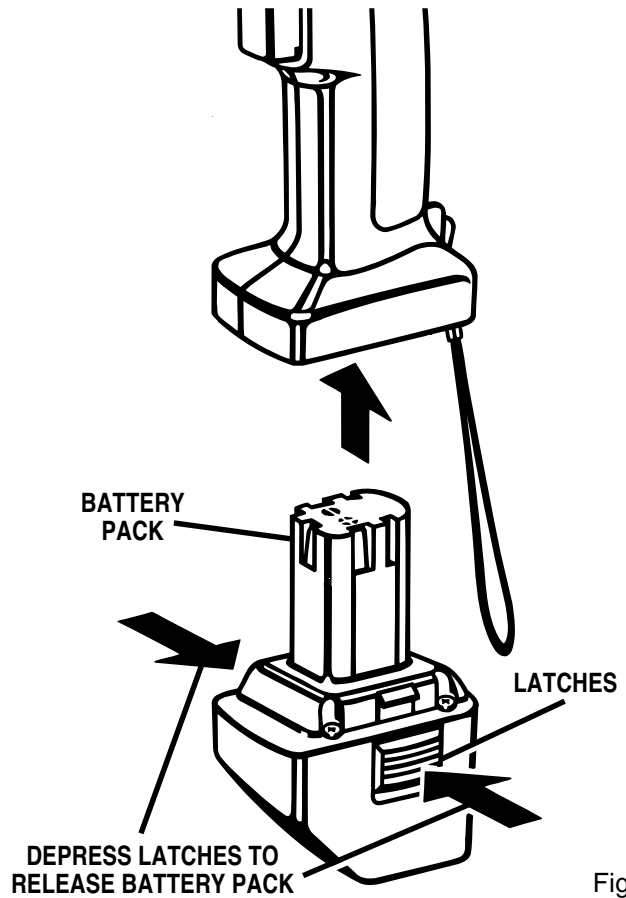

Fig. 3
- Place battery pack in your drill. Align raised rib inside drill with groove on battery pack. See Figure 3.
- Locate latches on end of battery pack and depress to release battery pack from your drill. See Figure 3.